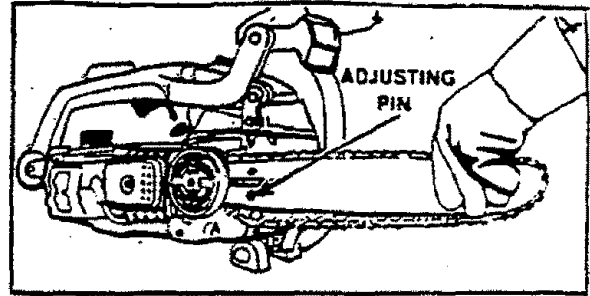

Figure 9
- Fit the adjusting pin into the adjusting pin hole below the large slot; turn the adjusting screw as needed to position the adjusting pin. Fit the large slot on the Bar Supports on either side of the Bar Stud. Figure 9.